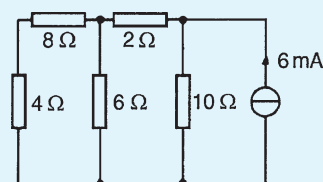

Figure 13.64
- Determine the current flowing in the 6Ω resistance of the network shown in Fig. 13.64 by using Norton's theorem.